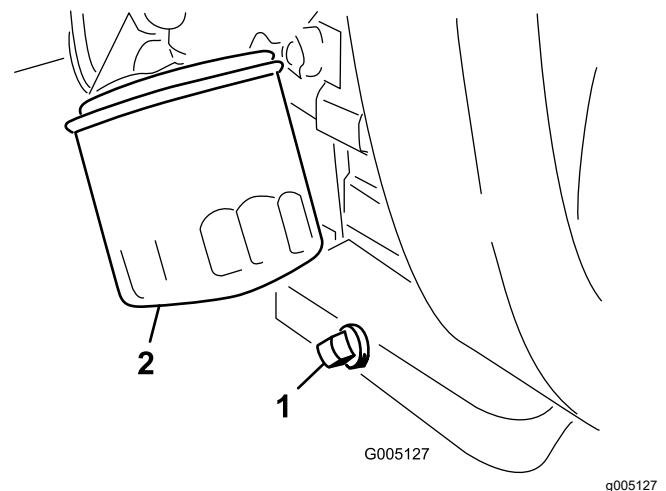

Figure 30
1. Remove the drain plug (Figure 30) and let the oil flow into a drain pan.
2. Clean the threads of the drain plug, apply PTFE sealant, and install the drain plug (Figure 30).
3. Remove the oil filter (Figure 30).